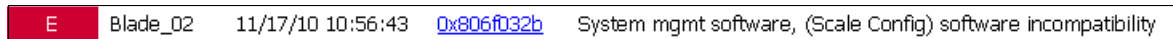

Figure 8-6 Blade incompatibility error when blade firmware is mismatched
- ▶ Incompatibility errors in the AMM, such as the error that is shown in Figure 8-6.